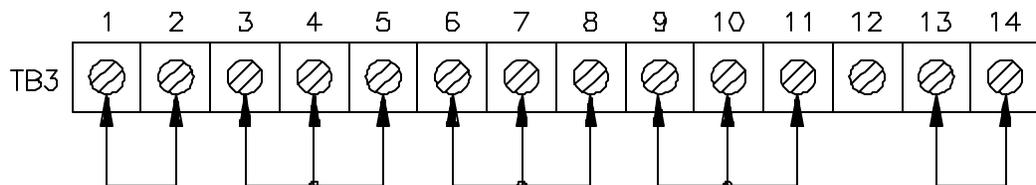

Figure 1 Normal Operation Configuration
The front panel surface contains all the controls and indicators necessary to operate the supply in its normal mode. The following checkout procedure describes the use of the front panel control and indicators (Figure 1, Section 3.3.1) and ensures that the supply is operational. This preliminary check of the power supply is done without a load connected.
- Check the barrier jumper straps on the back of the unit, as shown in Figure 1, for normal mode.
- Turn the CIRCUIT BREAKER (1) on/off switch to "on". The fans will start immediately. Push the Start Button after a 10-15 second delay due to the soft start circuit output will occur.
- Advance CURRENT CONTROL (6) one-half turn and slowly advance VOLTAGE CONTROL (3). The DC VOLTMETER (4) will deflect from zero to maximum rating of the supply as this control is advanced completely clockwise. The VOLTAGE INDICATOR (5) will be lit.
- h. Push the Start Button. Advance the VOLTAGE CONTROL (3) one turn clockwise and slowly advance the CURRENT CONTROL (6). The DC AMMETER (8) will deflect smoothly from zero to the rated current of the supply as this control is advanced clockwise. The CURRENT INDICATOR (7) will be lit.
3.3.1 NORMAL OPERATION (FIGURE 1)